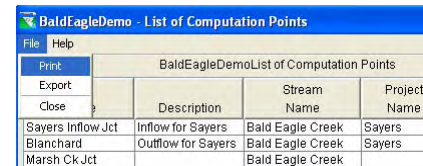
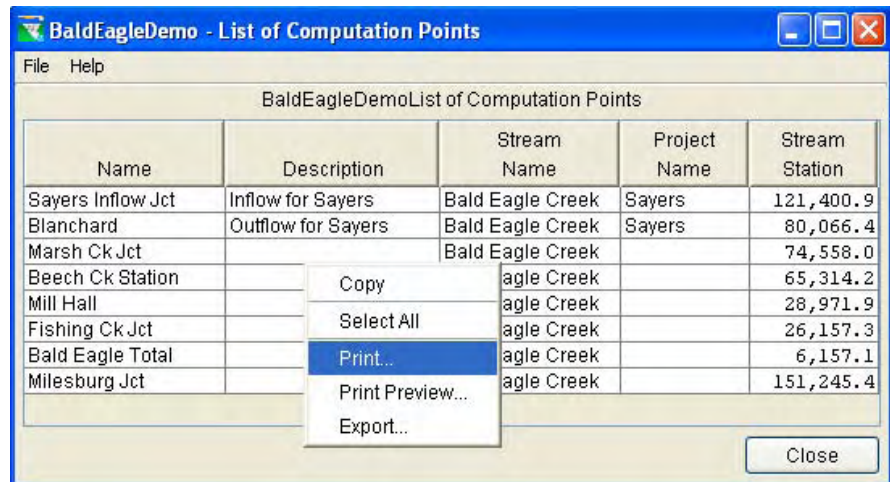

Figure 2.24 Select Print from Report's File Menu
Figure 2.25 Select Print from Report's Shortcut Menu
2. From the **File** menu of the opened report, select **Print** (Figure 2.24). Or, you can right-click anywhere within the tabulated data of the report and from the shortcut menu select **Print** (Figure 2.25).